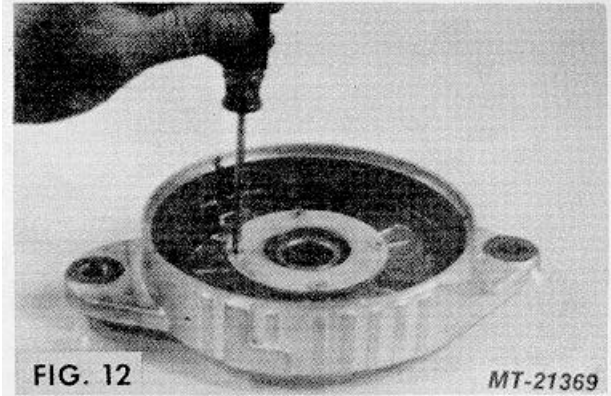

FIG. 12
17. Remove four screws and bearing retainer and press bearing out of drive end housing (see Fig. 12).